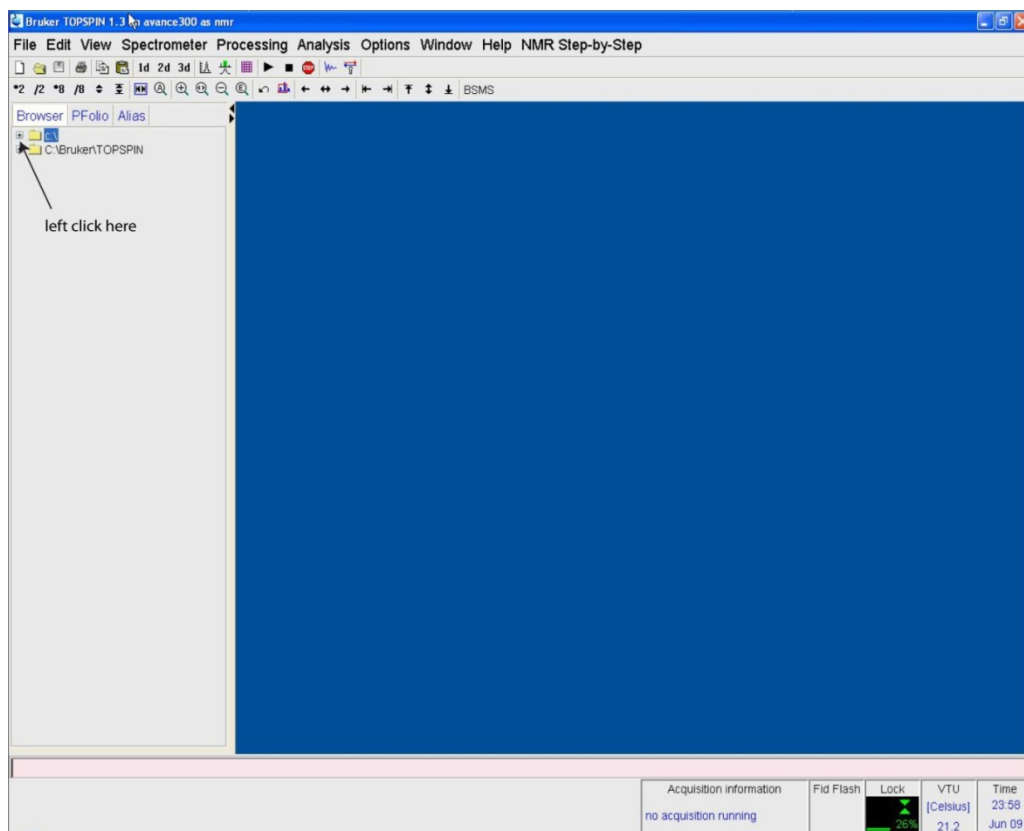

Figure 3 Main Topspin window.
(3) The Topspin program window should now be open (figure 3). In order to display the data you will need to left click on the plus sign located next to the highlighted c: directory (shown with an arrow).